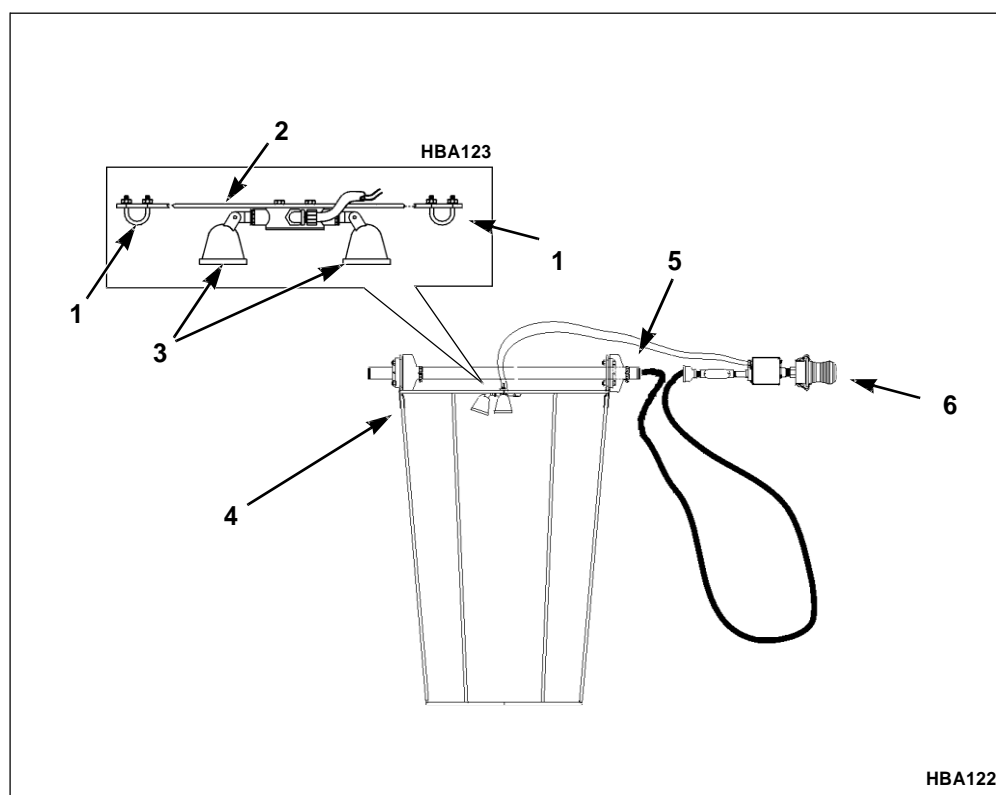

Figure 17. Installing the Internal Lighting Kit
2. Remove the two U-bolts from the light bar, see Figure 17.
3. **NOTE: Place the lightbar across the center of the large end of the basket, see Figure 17. The floodlights must point into the basket. Position the bar horizontally (parallel to the ground).**
4. Place the two U-bolts around the basket frame and back through the holes in the light bar, see Figure 17.
5. Tighten the U-bolts to the basket frame, see Figure 17.